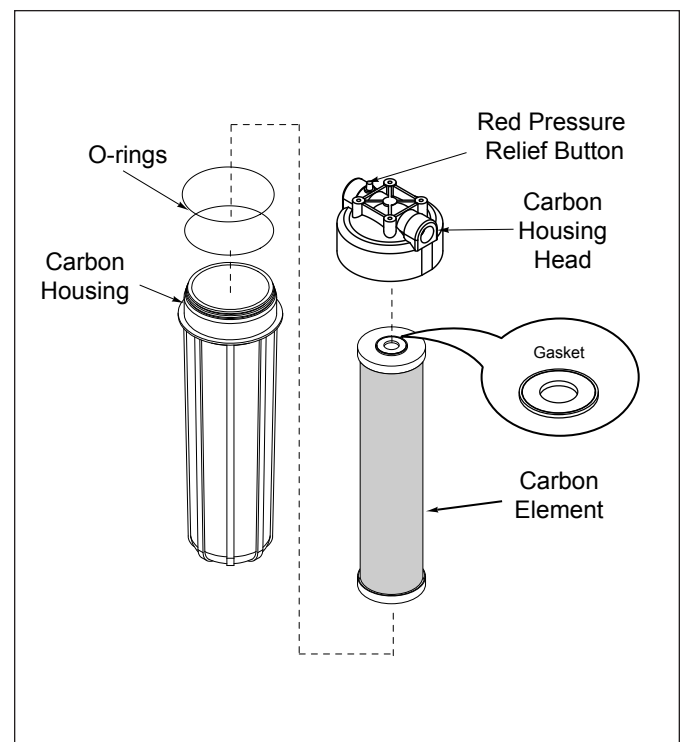

Figure 10. Carbon Element
4. Remove the Carbon Element Housing (Figure 10).
6. Inspect the O-rings on the Carbon Element Housing (Figure 10). Replace the O-rings if it is cracked, twisted, or missing.